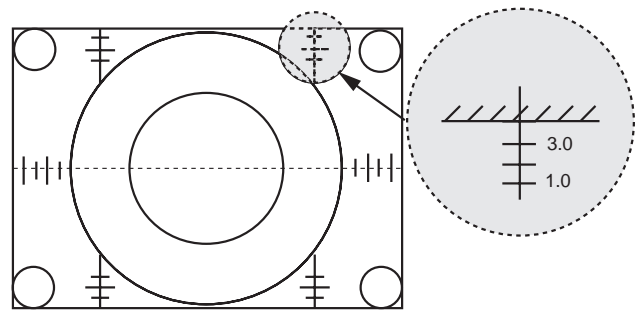

Figure 30. Vertical Size Adjustment
5. Adjust DAC (VSIZE) until vertical size is 3.5 ± 0.1 on top and bottom lines. (See Figure 30)